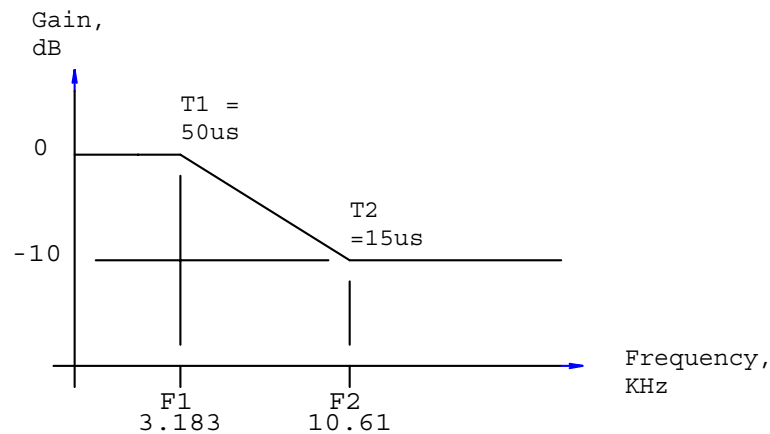

Figure 14. De-Emphasis Filter Response
**EMPH\_CNTL[2:0]** – De-emphasis filter control. See Figure 14 for De-emphasis filter response.